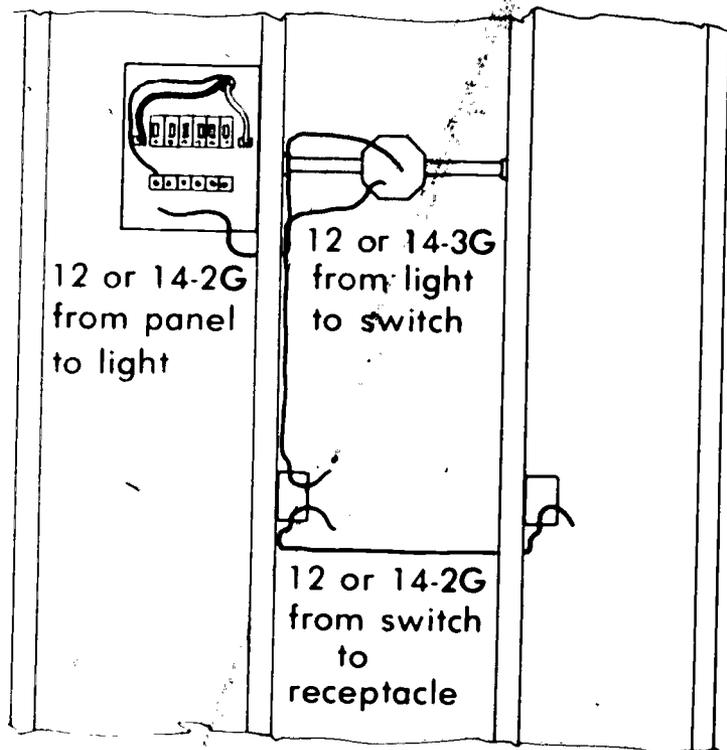

FIGURE 2
- F Run cable between boxes and to panel (Figure 2)